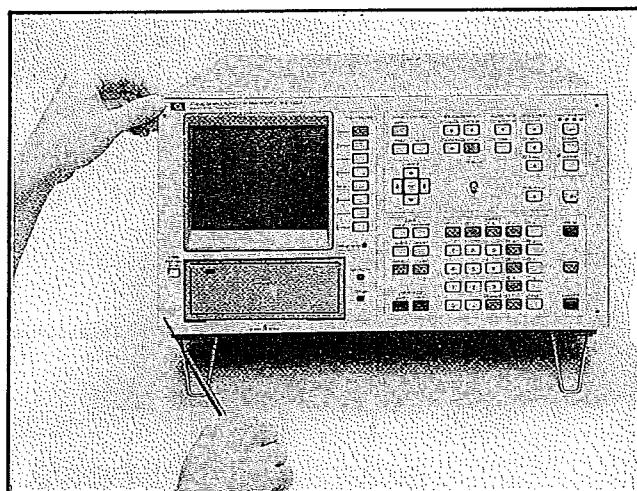

Figure 8-5. Front Panel Removal.
- (1) Remove the screws from each corner of the front panel.
- (2) Remove the Marker Control Dial. Use a .062mm Hex Driver.
- (3) Remove the front panel as shown in Figure 8-5.